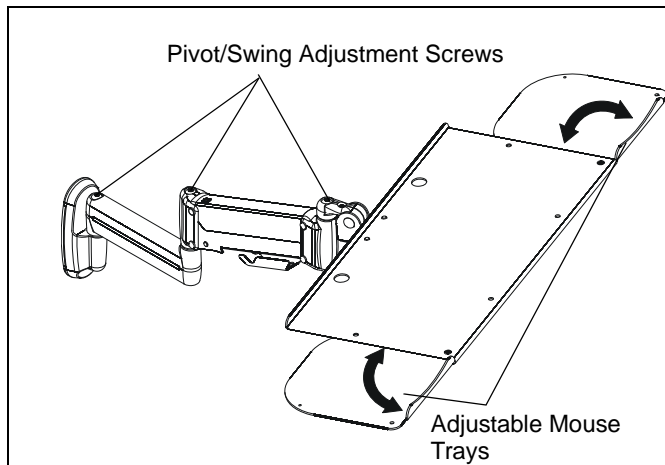

Figure 9
- Using 3/16" hex key (L), slightly loosen or tighten the adjustment screw(s) as necessary. (See Figure 9)
- Mouse trays slide open and closed on both sides of the tray for both right-handed and left-handed users. (See Figure 9)